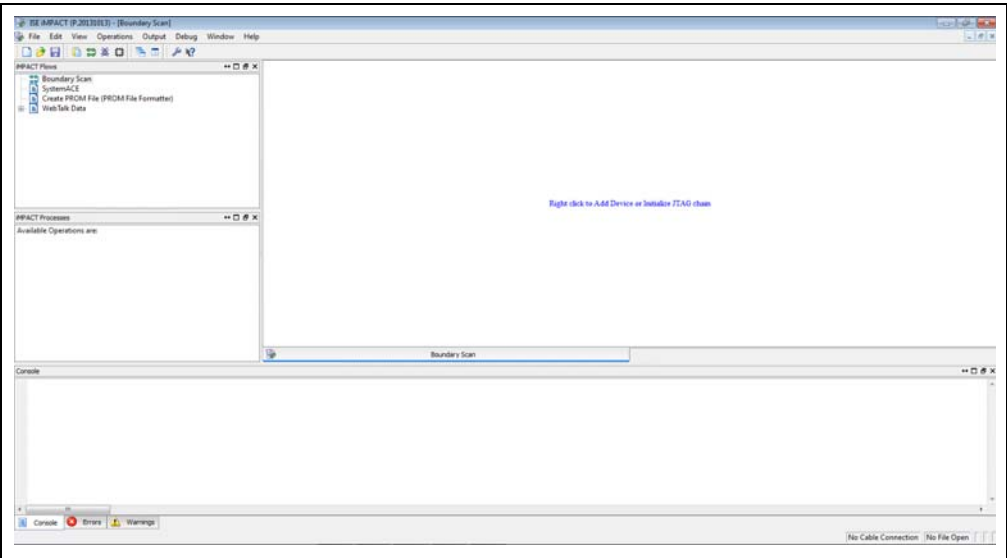

FIGURE 4-2: iMPACT Window.
2. The window in Figure 4-2 will appear.
3. Left click on “Boundary Scan” as shown in Figure 4-2.